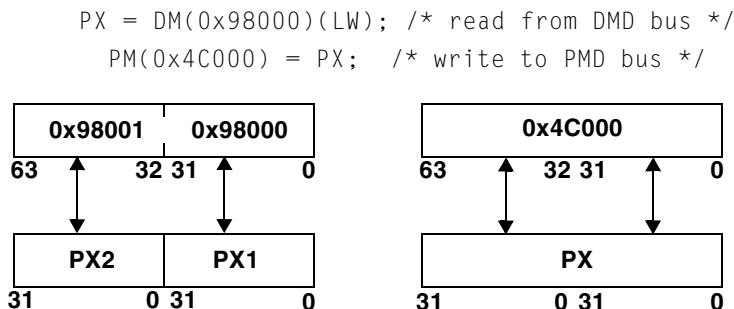

Figure 2-1. Bus Exchange (PX, PX1, and PX2) Registers
The two 64-bit data DMD and PMD buses allow programs to transfer the contents of any register in the processor to any other register or to any internal memory location in a single cycle. As shown in Figure 2-1, the bus exchange (PX) register permits data to flow between the PMD and DMD buses.